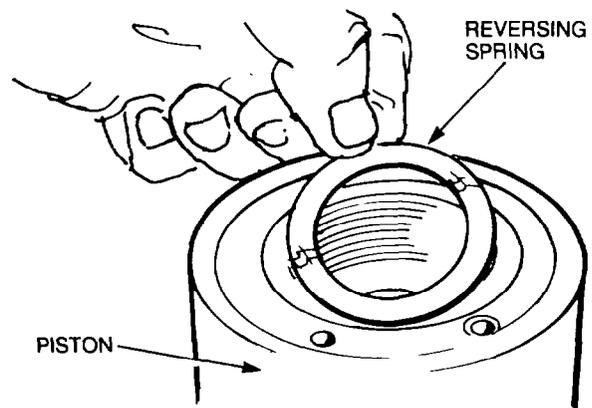

Figure 290 — Reversing Springs — Installation
- p. Lubricate the remaining reversing springs with clean engine oil and install the springs on the nose of the actuating valve (see Fig. 290).